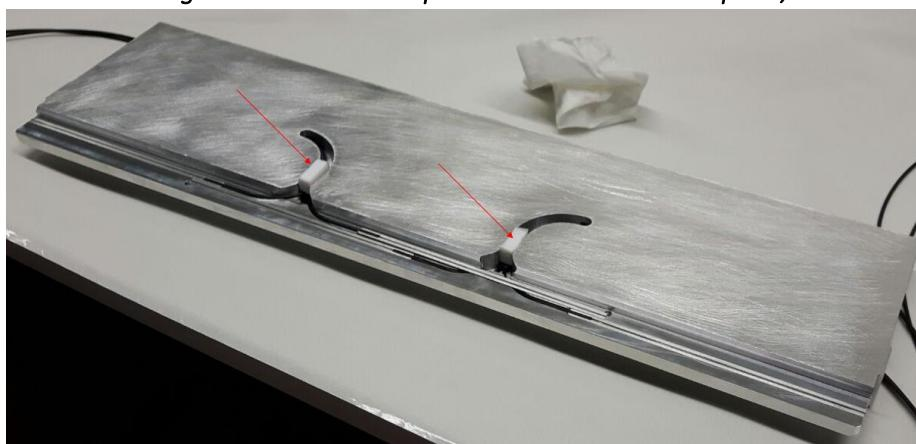

Figure 22 Teflon space holder into the routing groove
- 3.2.3.6 Place the Teflon space holder into the routing groove to insure that the cables sticks to the glue bath as shown in "Figure 22". Little to no pressure is needed at this point, to ensure the fibre in the cables are not damaged.